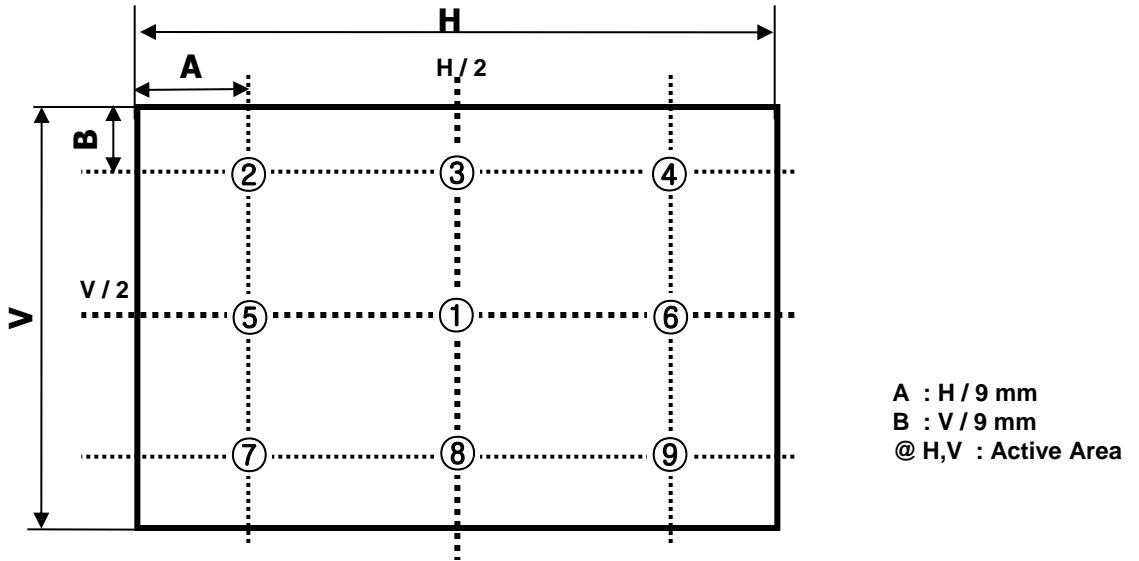

FIG. 2 9 Points for Luminance Measure
2. Surface luminance is determined after the unit has been 'ON' and 1 Hour after lighting the backlight in a dark environment at $25 \pm 2^\circ\text{C}$. Surface luminance is the luminance value at center 1-point across the LCD surface 50cm from the surface with all pixels displaying white. For more information see the FIG. 2
For more information, see the FIG. 2.